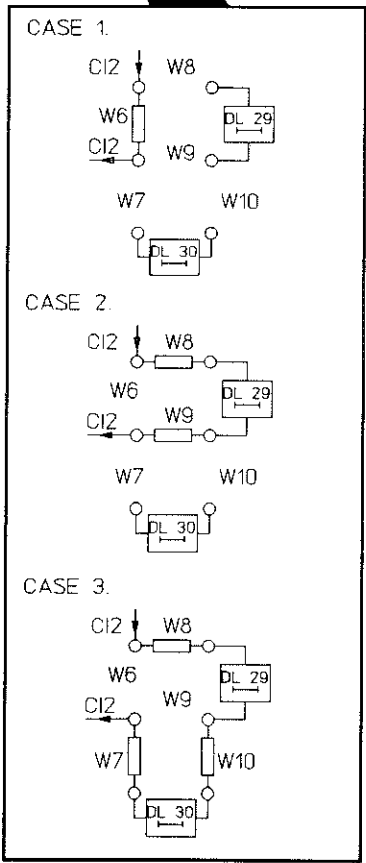

Figure 3-11. Interpolator 2 (Stop) Delay Configurations
9. Locate Interpolator 2 (Stop) delay jumpers W6-W10 by referring to *Figure 3-11*.
10. Refer to the actual A4 Interpolator Board and *Figure 3-11* to determine which delay configuration currently exists in the Interpolator 2 (Stop) circuit.